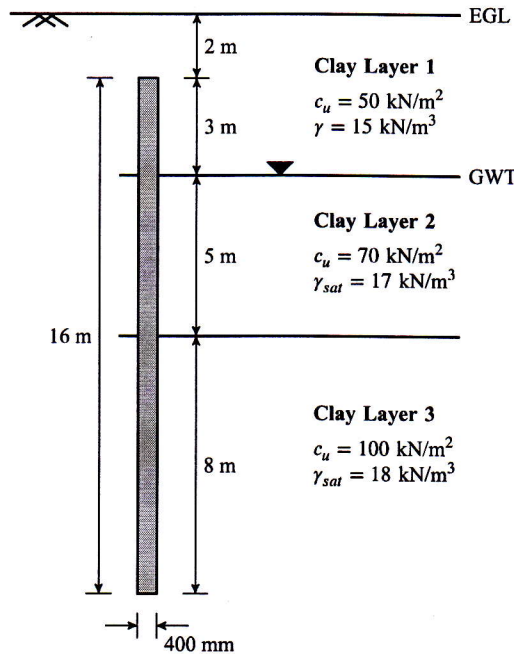

Figure 3
4. (a) Determine the ultimate load carrying capacity (Q_u) of the circular pile as shown in Fig. 3. The diameter (D) of the pile is 400 mm. Use the α method to determine Q_s , and Meyerhof's method to calculate Q_p . Ignore the self weight of the pile. [10]